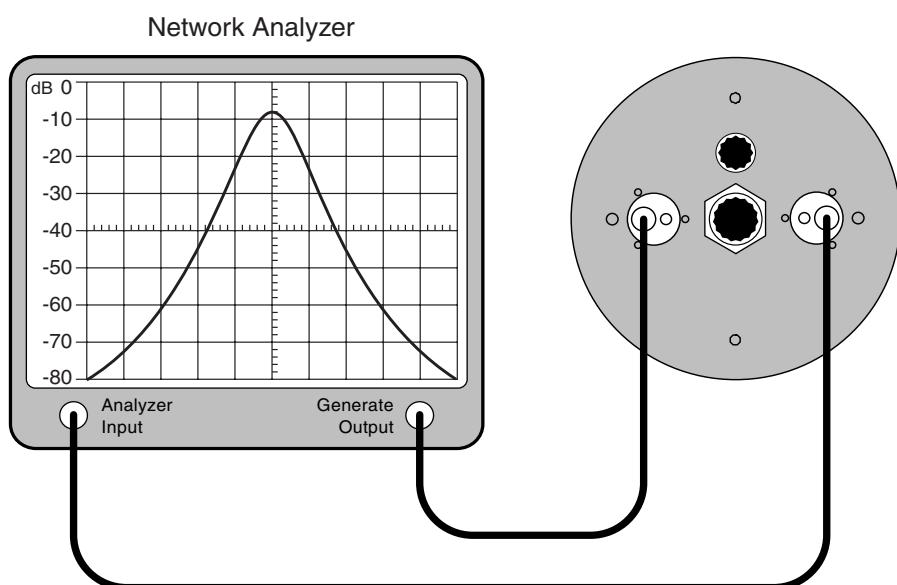

Figure 3: Configuration for tuning of pass frequency.
- 1) Connect the equipment as in **Figure 3**. Set the center frequency of the analyzer to the desired pass frequency.